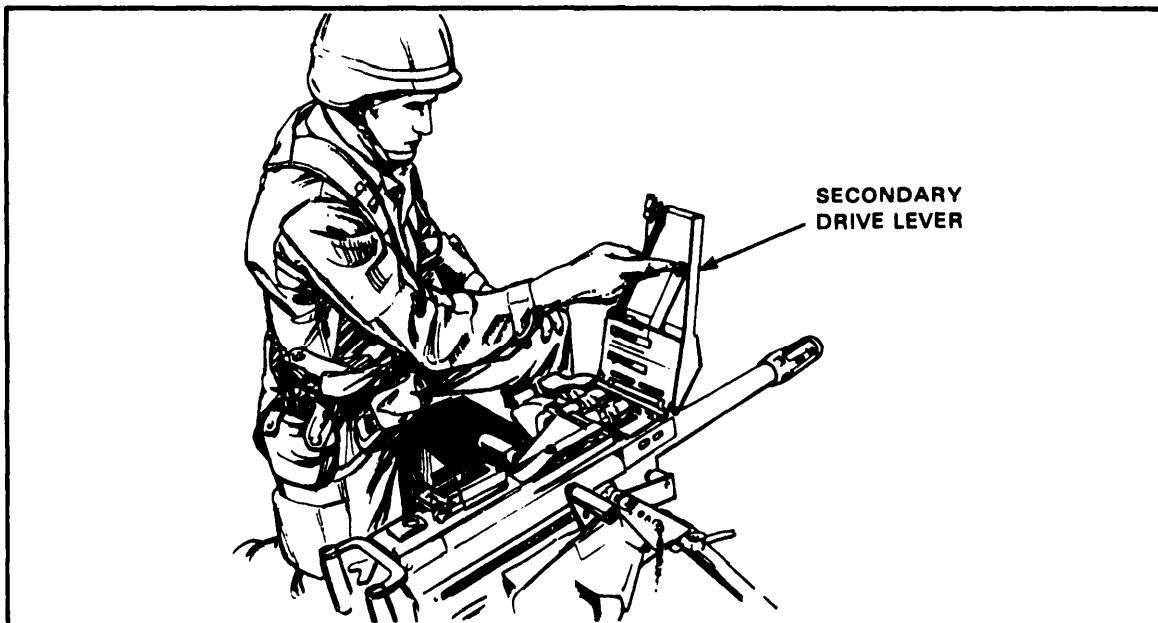

Figure 2-23. Positioning of feed slide assembly.
- (2) Push the round across the secondary feed pawl. To move the feed slide assembly to the left (Figure 2-23, push the secondary drive lever to the right. Close the cover.